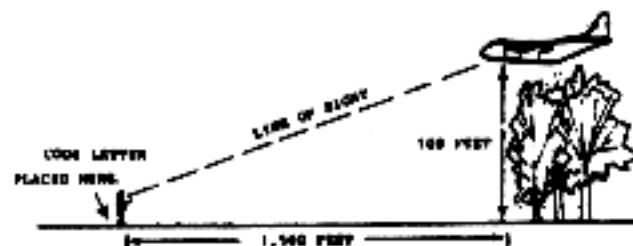

Figure B-18.
3. Markings must not be placed where obstacles will mask the pilots line of sight. As a guide, a mask clearance of 15:1 is used (figure B-18). If the Inverted L falls inside the 15:1 ratio, an Army code letter is placed on the far end of the Drop Zone on drop heading and on line with the release point.